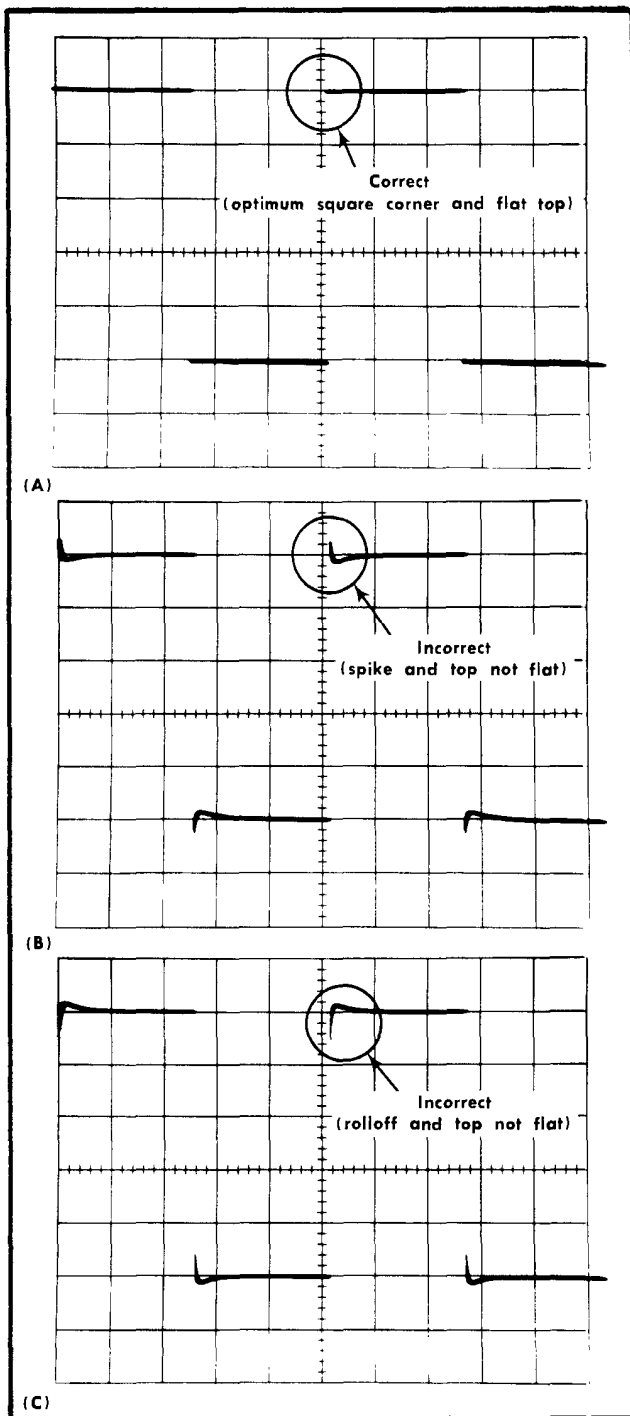

Fig. 5-6. (A) Typical CRT display showing correct VOLTS/DIV switch compensation; (B) and (C) incorrect compensation.
- c. CHECK—CRT display at each Channel 1 VOLTS/DIV switch setting listed in Table 5-2 for 3% or less overshoot, or rounding or tilt (see Fig. 5-6).
- g. CHECK—CRT display at each Channel 2 VOLTS/DIV switch setting listed in Table 5-2 for 3% or less overshoot, rounding or tilt (see Fig. 5-6).